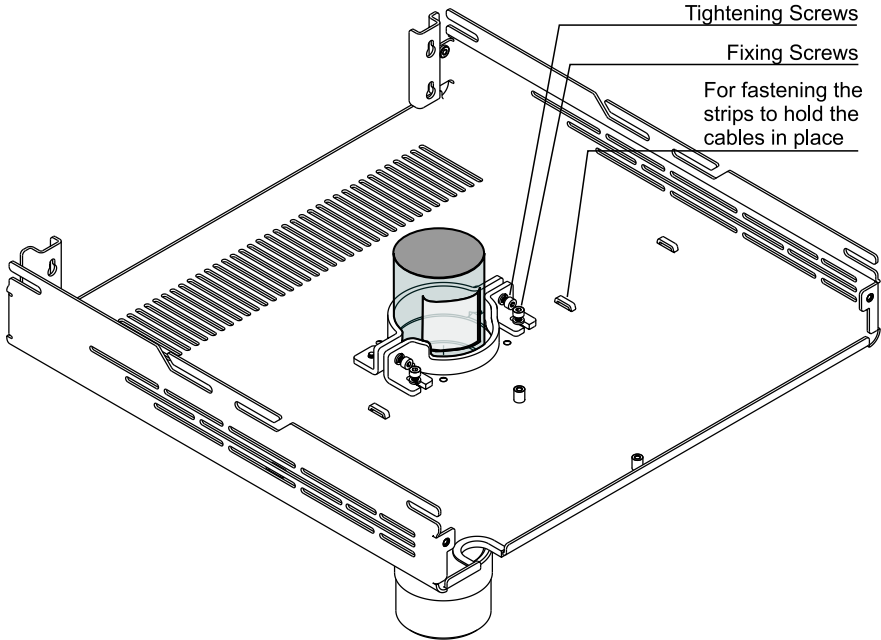

Figure 33: Connecting to the SV-CL Column (Viewed Upside Down)
3. Connect the top side of the **SV-1** to the **SV-CL** Column¹, as Figure 33 illustrates: